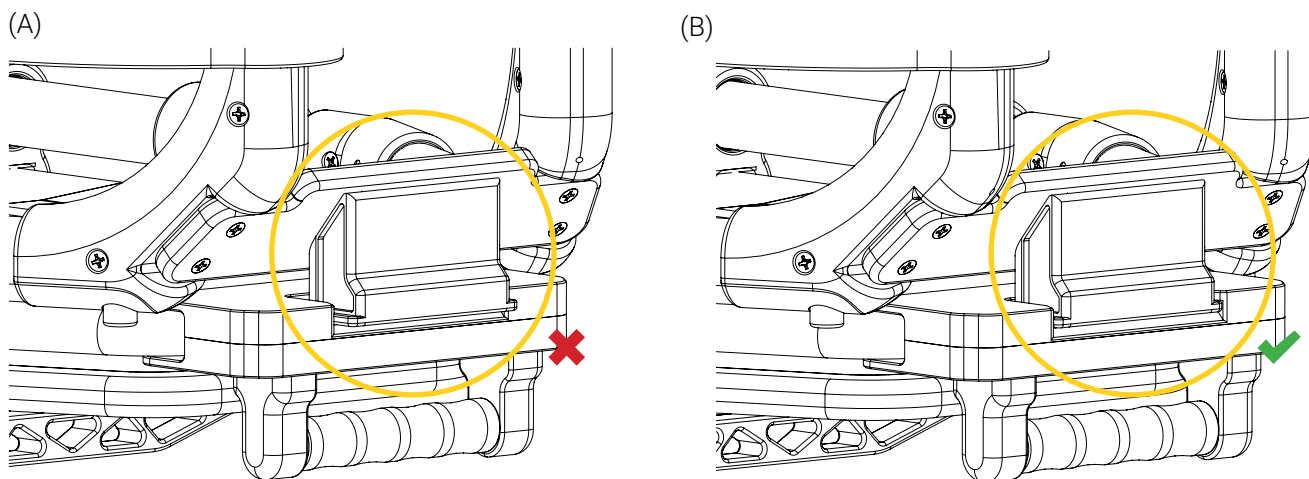

Figure 7: Activating the 2-part safety mechanism of the handle
4. Push the mobile structure in the clamp blocks until the safety mechanism activates and locks (Figure 7).